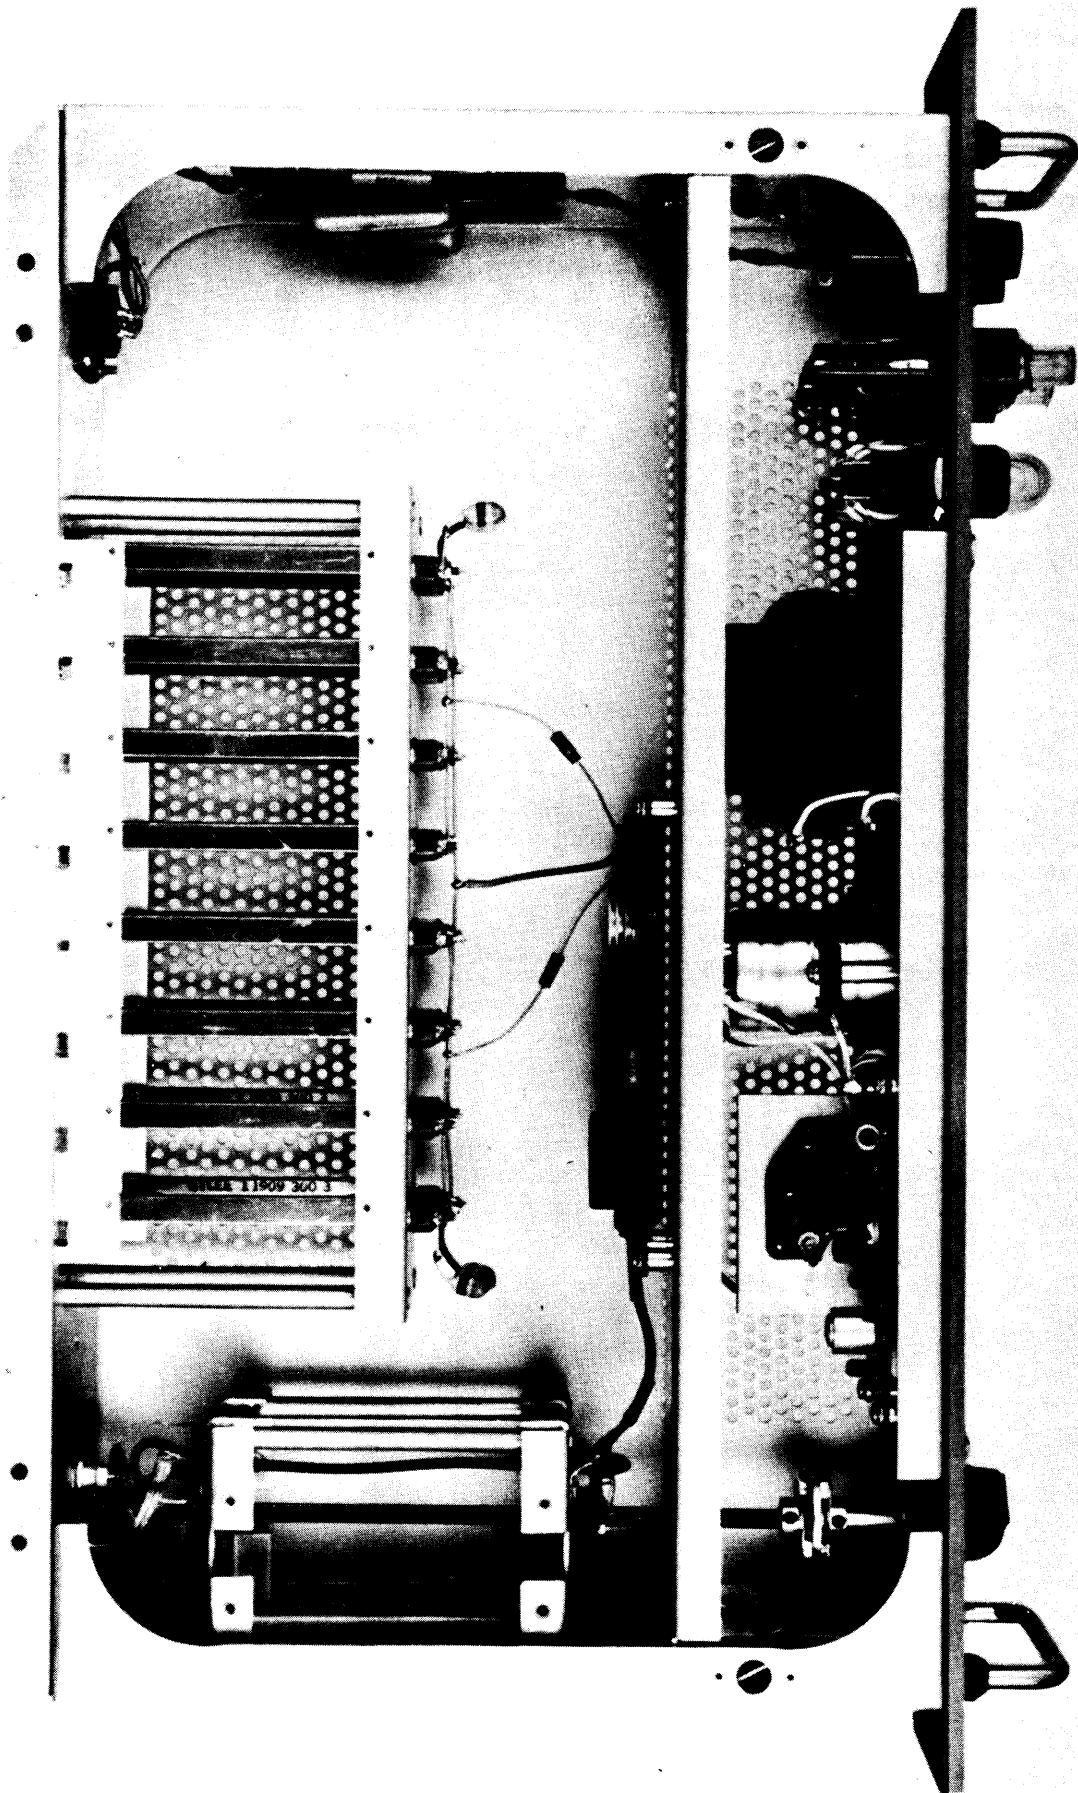

FIGURE 5-1 - TOP VIEW WITH COVER REMOVED, AMC-21B
(2) For aid in the location of components, refer to Figures 5-1 to 5-6 inclusive.